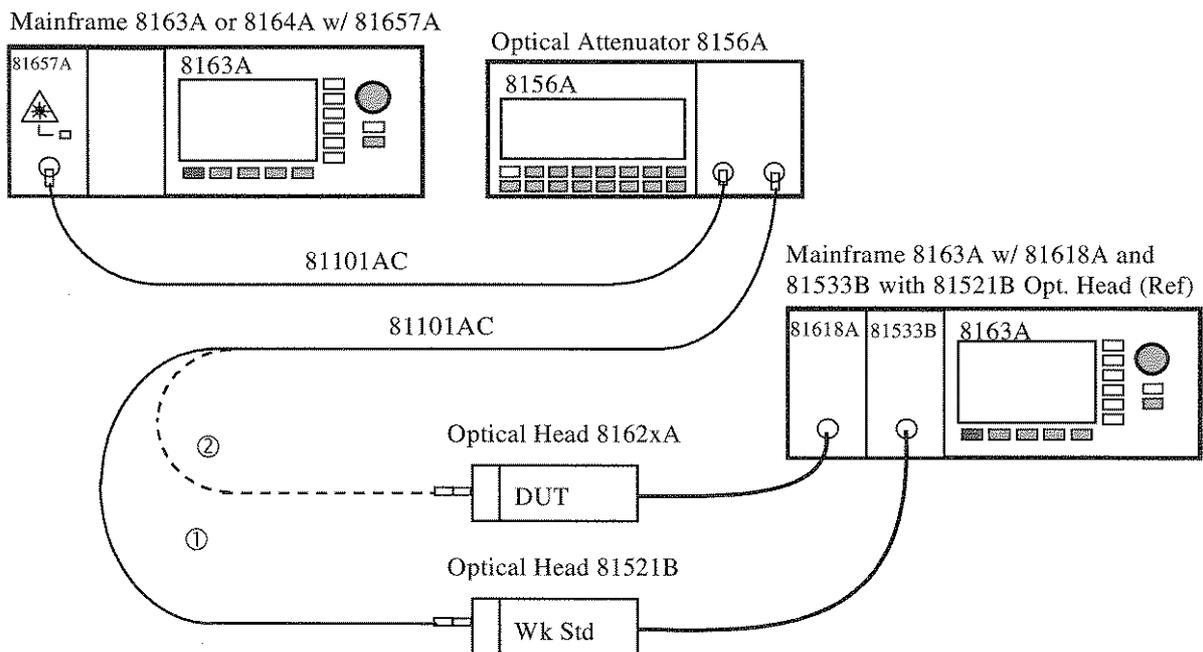

Figure 3 Accuracy Test Setup
- 2 Connect the equipment as shown in Figure 3.